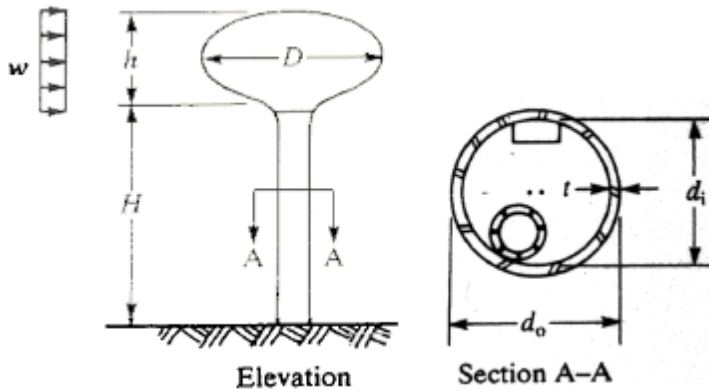

FIGURE E3.51 Water Tower support column.
**Design of a water tower support column.** As a member of the ABC consulting Engineers you have been asked to design a cantilever cylindrical support column of minimum mass for a new water tank. The tank itself has already been designed in the tear-drop shape shown in Fig. E3.51. The height of the base of the tank ( $H$ ), the diameter of the tank ( $D$ ), and wind pressure on the tank ( $w$ ) are given as  $H = 30$  m,  $D = 10$  m, and  $w = 700$  N/m2. Formulate the design optimization problem and solve it graphically. (created by G.Baenziger).